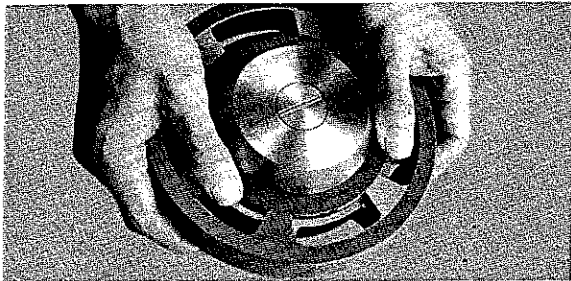

Fig. 94 Testing of discharge valve
- b. For the cylinder with the unloader mechanism, remove the cap bolt on the unloader cover, screw in an eyebolt, and put the bank in the loaded position. Lower the lift pins by pushing the unloader piston with the eyebolt screwed in as shown in Figure 94. Neglecting this step will cause damage to the suction valve or problems such as gas leakage after assembly.
- c. Join the suction valve assembly and the valve plate. Check that the valve is set properly. (Refer to Fig. 94)